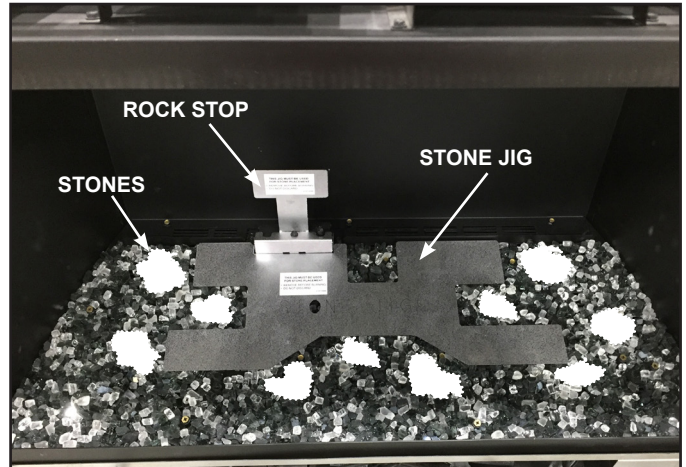

Figure 4. Stone Jig in Place
1. Place stone jig on glass media with "STONE JIG" facing up. Ensure that the stone jig sits flush against the rock stop. See Figure 4.